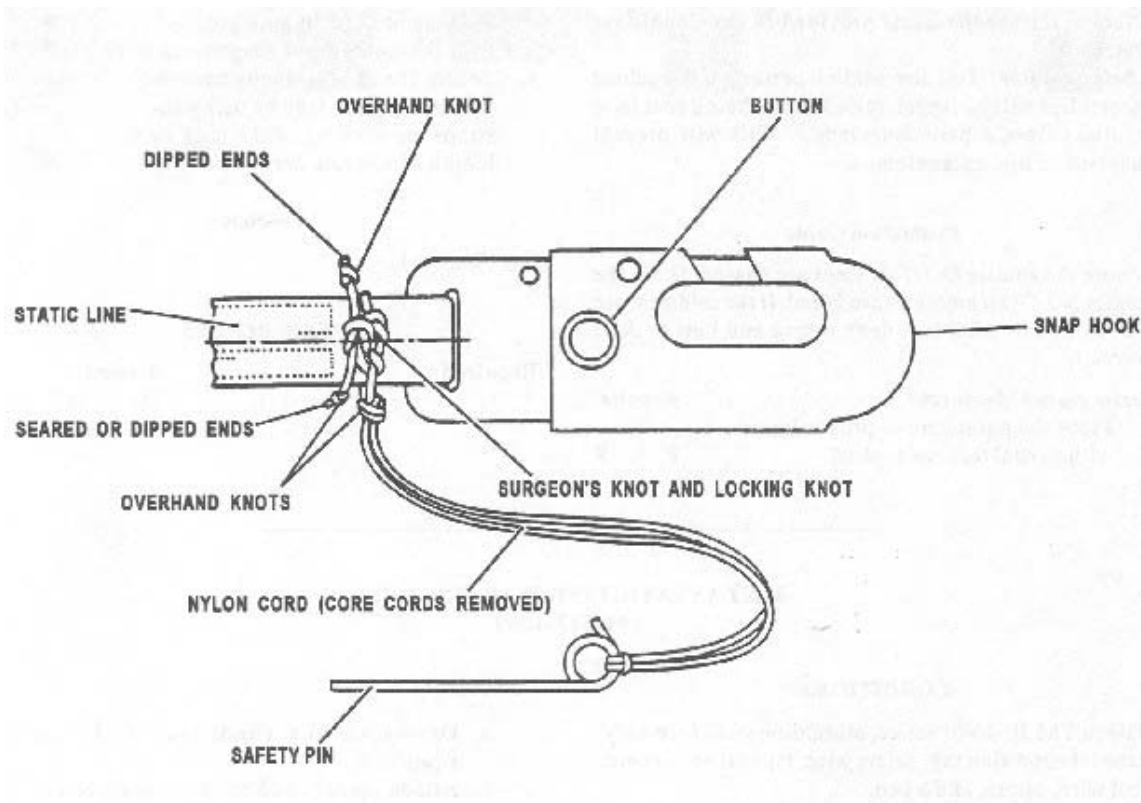

Figure 3-46
- b. Remove the core cords from the 20-inch length of type III nylon cord. Tie an overhand knot in each end of the cord and sear the ends. (See Figure 3-46)